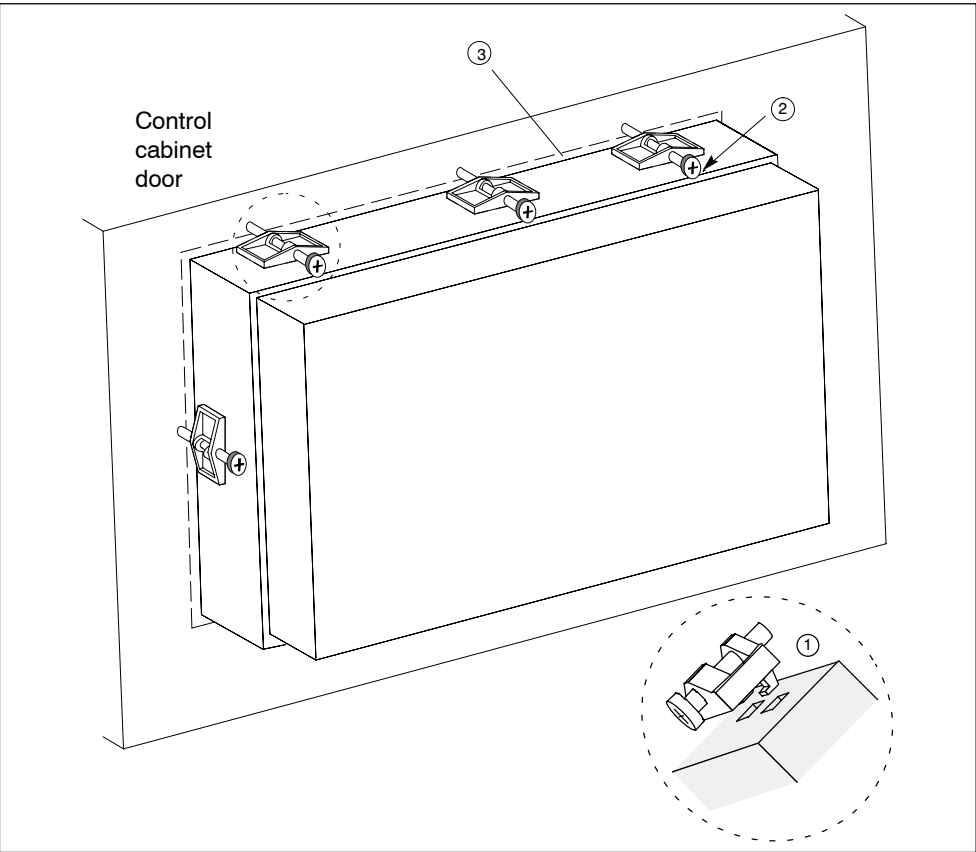

Figure 3-2 Mechanically Fastening the C7-635 Touch
4.	Guide the fastening hooks of the provided mounting supports ① (for the C7-635 Touch, 8 mounting supports; for the C7-635 Key, 10 mounting supports) into the intended recesses in the C7-635 housing. Figure 3-2 provides an example of the mechanical fastening of the C7-635 Touch.